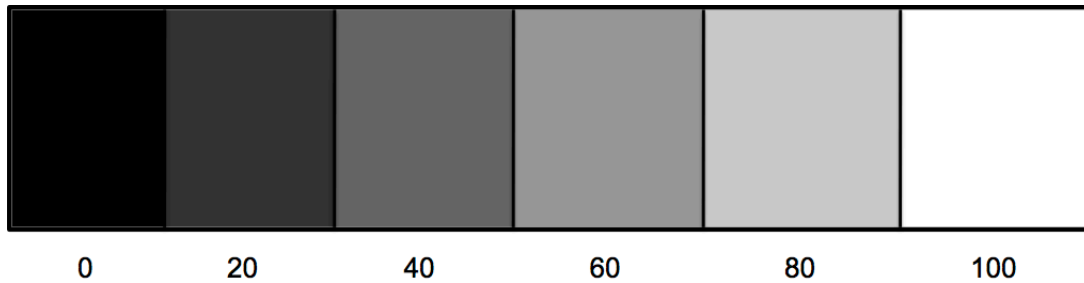

Figure 22: Gray-scale for characterizing the ground proximity sensors.
7. For each band in the gray-scale in Figure 22 (located at the end of this tutorial):